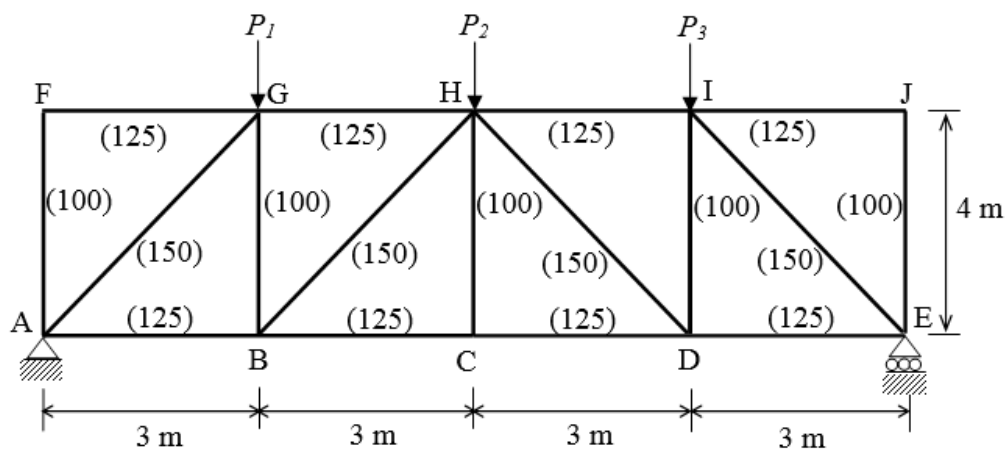

Figure 1
1. (a). Determine the vertical displacement at point C for the truss shown in **Figure 1** if two concentrated loads of P_1 are applied vertically downward at points G and I and a concentrated load of P_2 is applied vertically downward at point H. The cross-sectional area of each member is given in parentheses (mm^2) and the modulus of elasticity is 200 GPa. Consider the axial deformation only and the values of all applied loads are given in **Table 1**. Use the method of virtual work.
- (b) Determine the vertical displacement at point C of the same truss as shown in **Figure 1** without the applied loads of P_1 , P_2 and P_3 but due to temperature increase of 55°C in member AG, member BH is 10 mm too short and member DH is 6 mm too long. The coefficient of thermal expansion of the member is $1.08 \times 10^{-5}/^\circ\text{C}$. Use the method of virtual work.